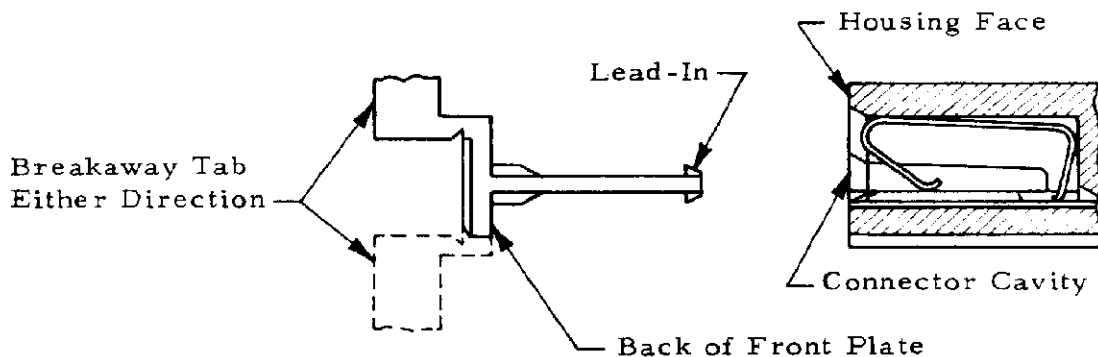

Figure 9
- A. Align lead-in of polarizing plug with connector cavity to be polarized as indicated in Figure 9.